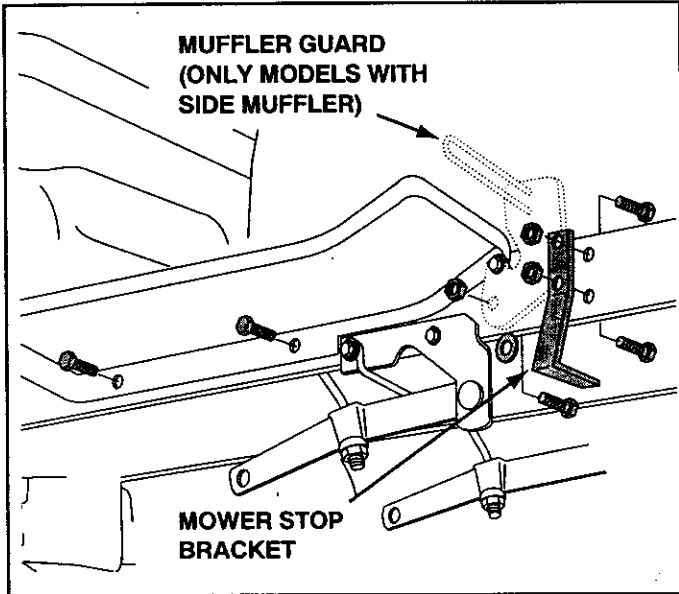

FIGURE 3 RIGHT SIDE VIEW
- Remove the mower stop bracket and its two bolts and nuts from the R.H. side of the tractor frame as shown in figure 3.
- If the tractor has a muffler guard at the front of the R.H. foot rest, remove the bottom bolt and nut, and the washer which is located between the guard and the tractor frame. See figure 3.
- Remove the two bolts from the bottom of both the R.H. and L.H. foot rests. See figure 3.